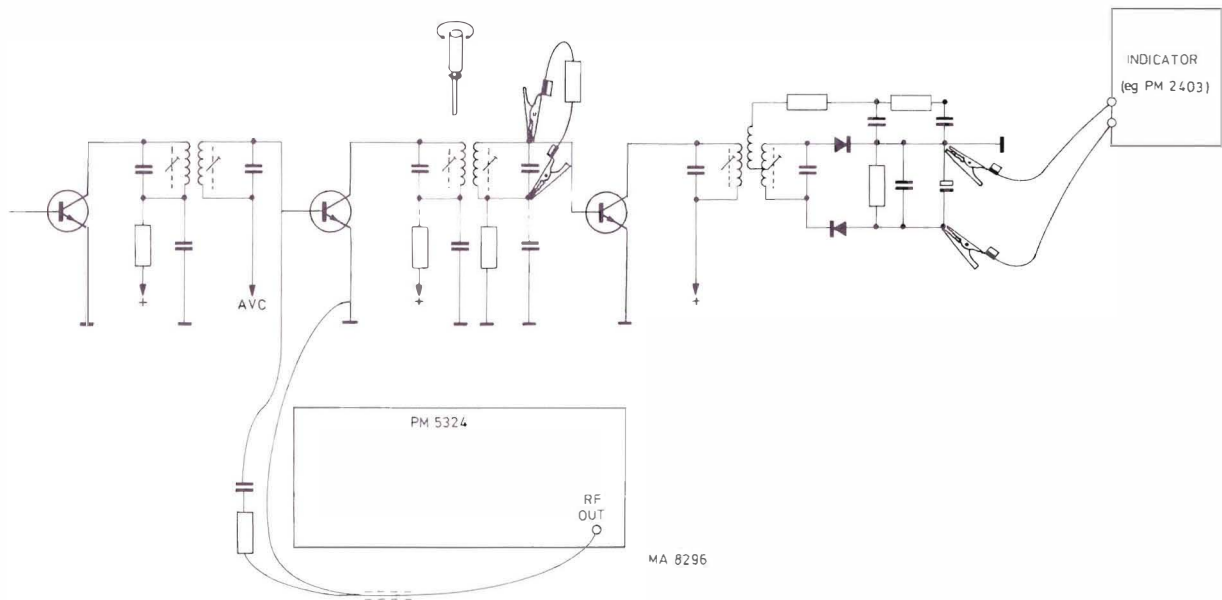

Fig. 14. Alternately damping and adjusting the primary and secondary circuits
- Connect the indicator according to Fig. 14
- Adjust the core of the primary circuit (Fig. 14) of the ratio detector to maximum deflection of the indicator
The circuits of a band-pass filter which are not adjusted should be terminated with a resistor of approx.  $10\ \Omega$  during the adjustment of a circuit of the band-pass filter (Fig. 14).